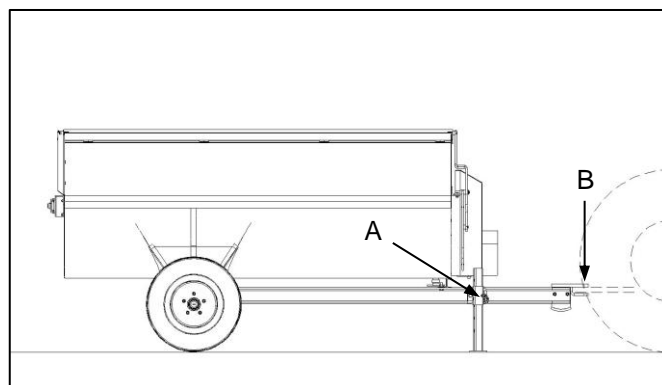

Fig. 2
- ✔ When hitching the implement to the tractor, extend the parking stand (Fig. 2-A) until the implement hitch clevis (Fig. 2-B) height coincides with the tractor towing hitch height. Engage the lowest available gear on the tractor and reverse the tractor towing hitch into the implement towing hitch clevis.
- ✔ Om die implement aan die trekker te haak, verleng die parkeerstut (Fig. 2-A) totdat die implementhaakvurk (Fig. 2-B) en die trekkersleephaak ewe hoog is. Kies die trekker se laagste beskikbare rat en stoot die trekker agteruit om die sleephaak in die implementsleephaakvurk in te stoot.